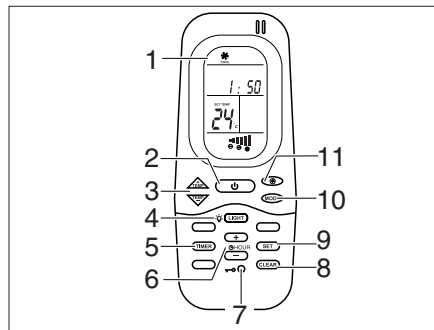

Fig. 164 Remote control
The air conditioning unit is located on the roof of the vehicle. The remote control (Fig. 164) for the air conditioning unit is located in the kitchen area.
- To switch on, press the on/off switch (Fig. 164,2) on the remote control.
- Set the desired operating mode using the MODE button (Fig. 164,10).
- If necessary, set the desired fan level by using the button (Fig. 164,11) and the room temperature by using the buttons (Fig. 164,4).
- To switch off, press the On/Off switch (Fig. 164,2) on the remote control again.
- To carry out programming, switch on the air conditioning unit with the On/off switch (Fig. 164,2) on the remote control.
- Press the TIMER button (Fig. 164,5). The ON indicator for the Start time is activated.
- Set the time with the TEMP (+/-) buttons (Fig. 164,3).
- Press the TIMER button (Fig. 164,5) again. The OFF indicator for the Start time is activated.
- Press the TIMER button (Fig. 164,5) again.
- Upon completing the setting, press the SET button (Fig. 164,9).
- Press the CLEAR button (Fig. 164,8) to delete the timer programming.